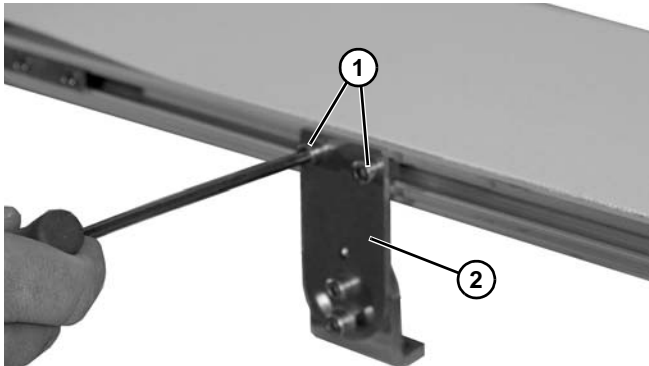

Figure 16
2. Remove two screws (**Figure 16, item 1**) and remove mounting brackets (**Figure 16, item 2**) from one side of conveyor.